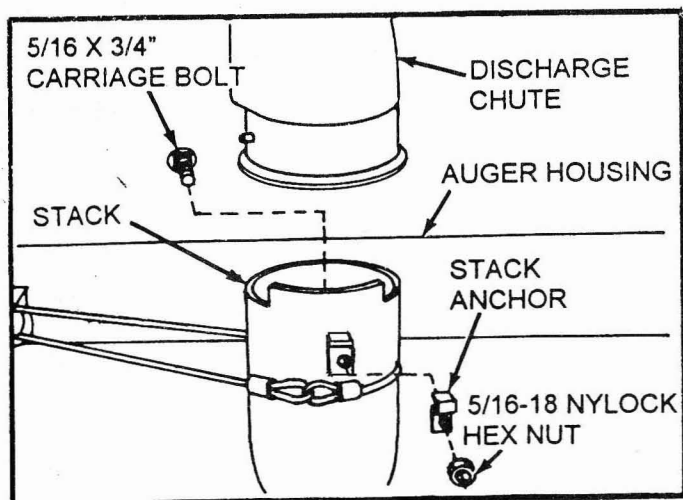

FIG. 8
- Loosen 3/8" Nut and Lockwasher Assembly that holds Chute Control Cable Assembly to the Auger Housing and move cable down away from Anchor Mounts. (See Fig. 8 & 9)
- Insert 5/16 x 3/4" Carriage Bolt through one of the holes in the Stack of the Auger Housing with the head of the bolt to the inside of the stack. (See Fig. 8)